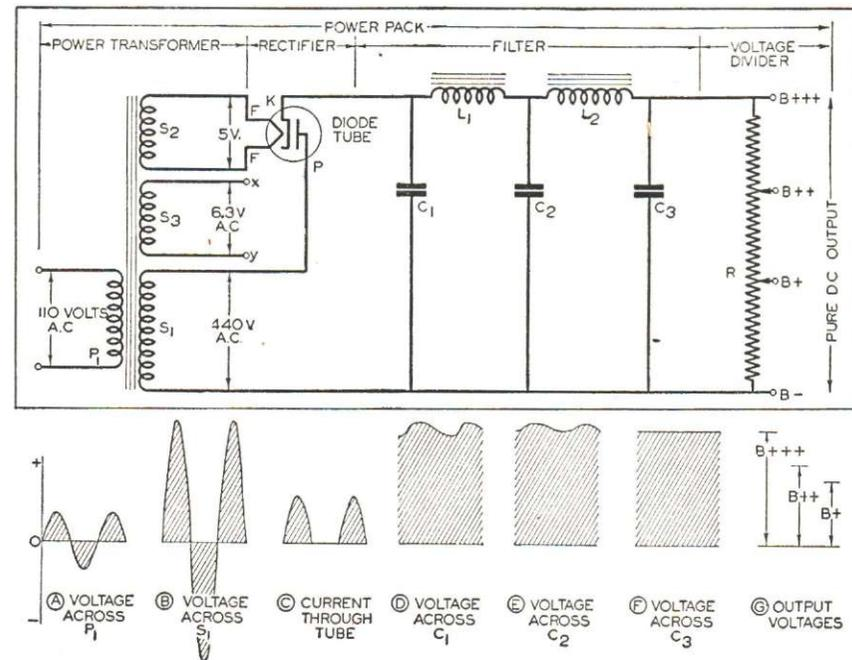

FIG. 26. A simple power supply using a diode tube as a rectifier.
► A basic power pack, similar to those used in superheterodyne receivers, is shown in Fig. 26. Let us learn a little more about the purpose of each part.
Thus, when 110 volts a.c. are supplied to primary P_1 in Fig. 26, secondary S_1 provides 440 volts a.c.; secondary S_2 provides 5 volts a.c. for the diode rectifier tube filament; secondary S_3 provides 6.3 volts a.c. across terminals x and y for the filaments of all other tubes in the receiver.
The Voltage Divider. The output voltage at C_3 may be too high for many of the tubes, so a resistor, having taps or terminals along it, is sometimes connected across the output of the filter to divide the d.c. voltage. The arrangement is shown in Fig. 26 and the voltage division is represented at *G*. It is customary, when a power pack has several output voltages, to mark B+ on the circuit diagram at the terminal which has the lowest positive voltage; the next higher voltage is indicated by B++ , the next by B+++ , and so on.